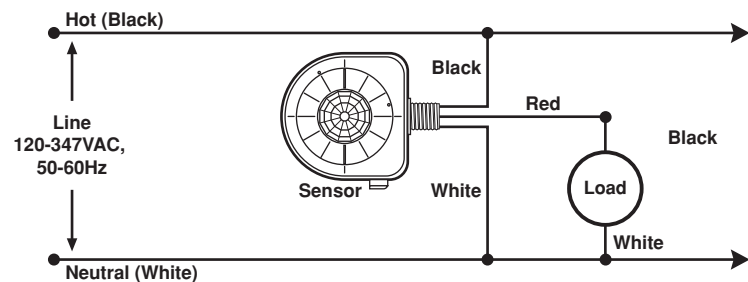
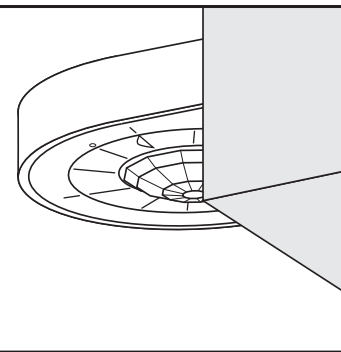

Figure 1A
Figure 1B
NOTE: The OSFHU-xTW is supplied with two lens trim rings. The 360 degree High Bay lens (white color trim ring) is installed at the factory with the Low Bay lens (blue color trim ring) in the carton. Choose the correct lens for your fixture height location and add the black aisle mask if desiring to block detection outside of the aisle. See below for changing lens trim ring. The OSFHU-xTW Sensor mounts in a 1/2" knock out hole on the end of a luminaire or an electrical box. The Sensor's field-of-view may be partially obstructed by the luminaire housing (**refer to Figure 1A**). At higher mounting heights, the outer beams are not used. As long as the bottom of the sensor is mounted within 1" from the bottom of the luminaire, the field-of-view will not be affected (**refer to Figure 1B**).
2. Punch out the keyed hole of the Adapter half body to be mounted on the luminaire or electrical box (**refer to Figure 1B**).